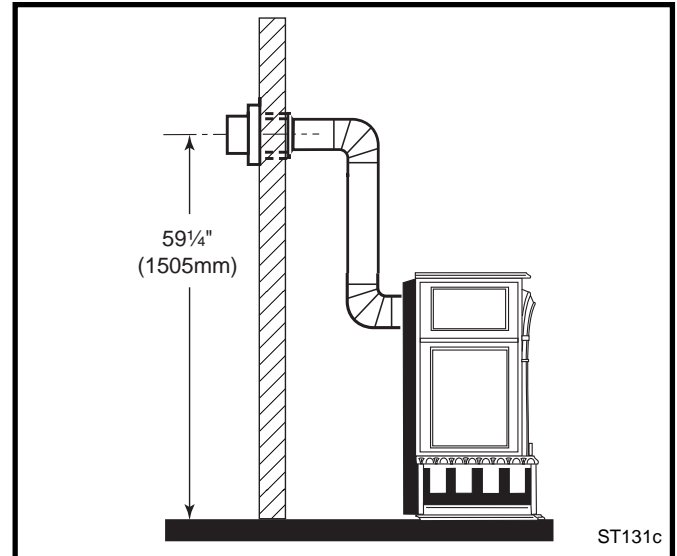
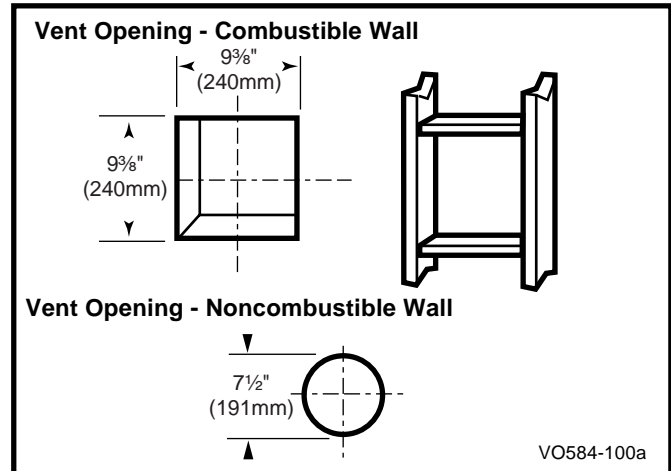

Fig. 20 Minimum wall thimble centerline.
Fig. 24 Locate vent opening.
Refer to Figures 20 & 21 for minimum centerline of wall opening.
1. Locate the vent opening on the wall. Refer to Figures 20 & 21, to determine the minimum centerline of wall opening. It may be necessary to first position the stove and measure to find the hole location. Depending on whether the wall is made of combustible materials, cut the opening to the size shown in Figure 24. Combustible wall openings must be framed as shown in Figure 24.
- Cut the opening:** (Page 17, Fig. 24)